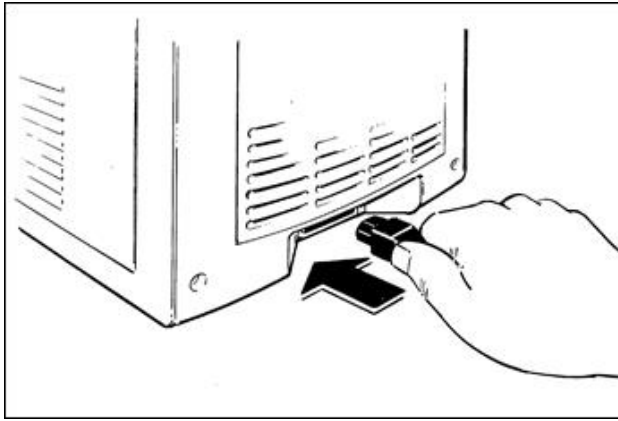

Fig. 53
- Insert the female plug into the electrical power inlet (Fig. 53) and then the male one into the power supply socket.